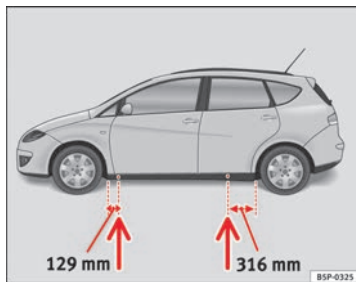

Fig. 180 Jack position points
- Locate the jacking point under the door sill closest to the wheel to be changed → fig. 180.
Recesses at the front and rear of the door sills mark the jacking points → fig. 180. A position has been made for each wheel. Do not fit the jack anywhere else.